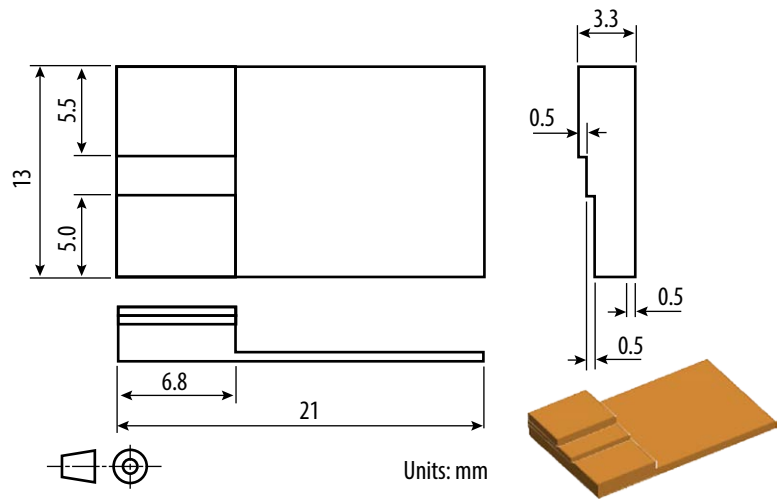

Figure 13: Detailed drawing of the copper heat-spreader used for the EPC91106 evaluation board cooling system.
- A custom profile copper heat-spreader, see figure 13
A detailed drawing of the heat-spreader is given in figure 13.